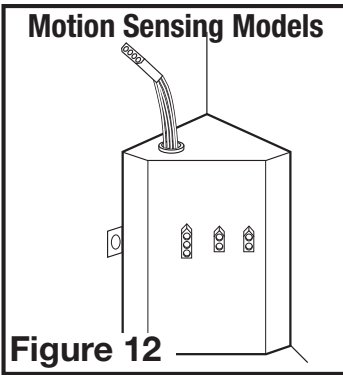

Figure 12
**NOTE:** If the mounting flange is installed on the fan housing, remove the two screws that connect the ceiling mounting flange to the housing and set aside (Figure 12).
3c. **MOTION SENSING MODELS:** Plug the fan's 2 pin quick connect motor cord into the receptacle located on the side of the wire compartment cover. Plug the 3 pin quick connect motor cord into the shorter end of the included harness then into the receptacle located on the top of the wire compartment cover. These cords will only fit one way into the receptacles (Figure 12).